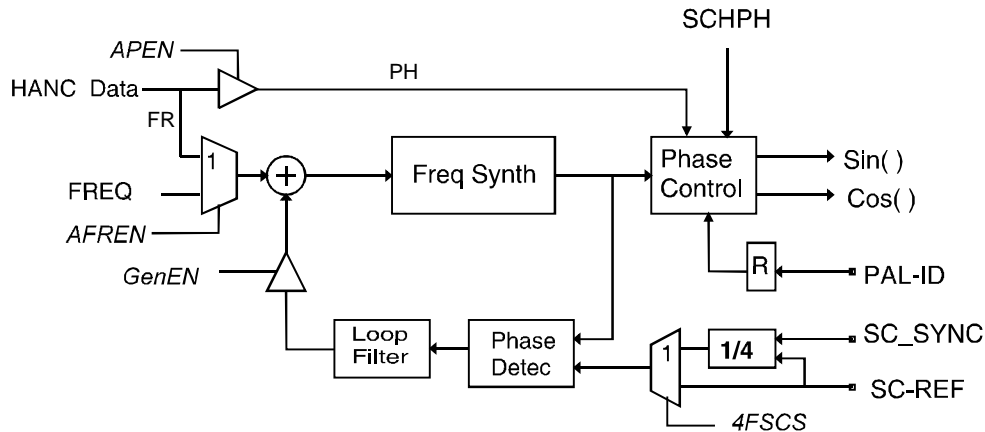

Figure 6. Fsc Synthesizer
The MPEG II system allows the 27 MHz clock frequency to vary to prevent the input buffer from overflow or underflow. When this happens the color subcarrier frequency will shift if the addend of numerical oscillator is not adjusted accordingly. If control register bit AFREN is '1' the subcarrier synthesizer will select the latched HANC's **subcarrier frequency data (FR)** as the addend instead of the programmable register (0x8-0xb) (Figure 6). The FR is latched if HANC datum **FRV** = '1'. and the HANC control register's AFREN bit is set. The FR's value should be calculated using the equation
Figure 6 shows the chrominance frequency response for different bandwidth selections.